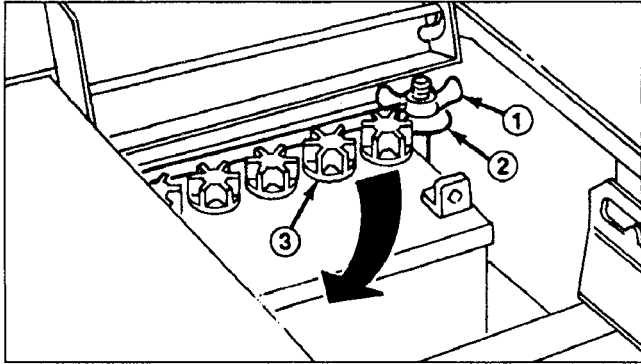

Figure 4
2. Remove wing nut securing battery hold downs to rider chassis. (Fig. 4).